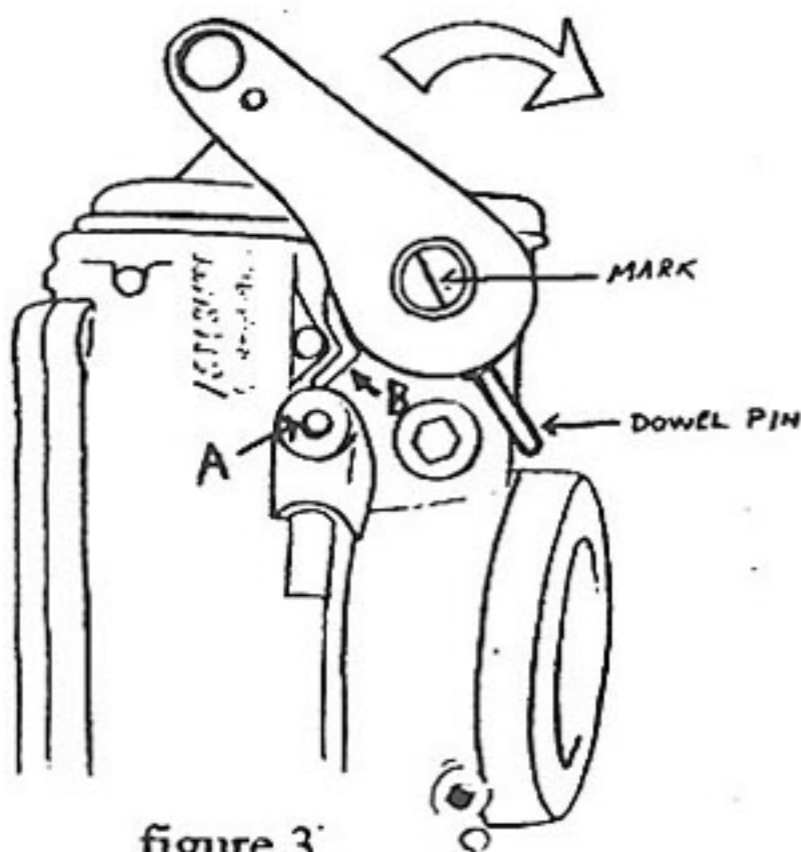

figure 3
- Step 6 Mark existing throttle shaft (Part #46) with a marker in line with dowel pin holes for alignment purposes (Refer to mark in figure 3)
- Step 13 Start assembly by placing spring against carburetor body in position illustrated in figure 3. Note position of cruise lever and spring tang (Figure 3B)